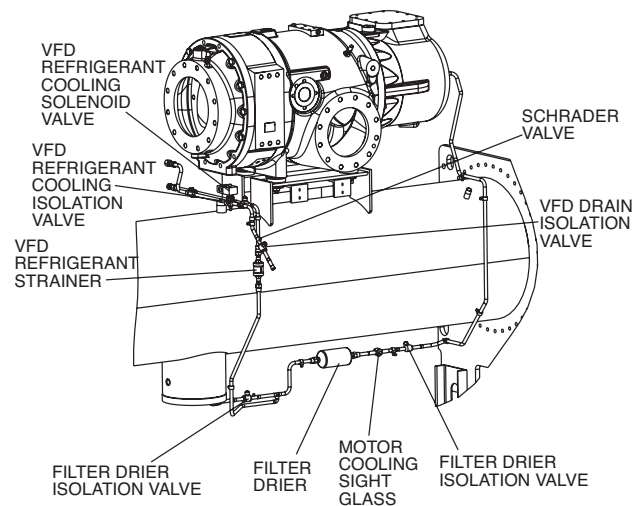

Fig. 15 — VFD Refrigerant Isolation Valves
1. Close the 2 filter drier isolation valves (Fig. 15) and the 2 VFD isolation valves. Isolate the refrigerant charge into the condenser to prevent a refrigerant leak if one of the motor terminals is accidentally damaged during VFD removal or installation. Evacuate the VFD coldplate through the Schrader valve (Fig. 15) on the VFD drain isolation valve.